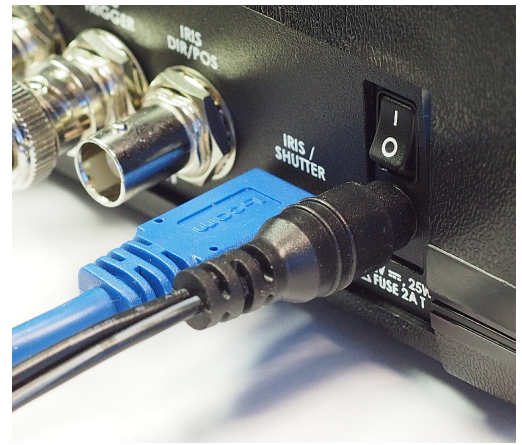
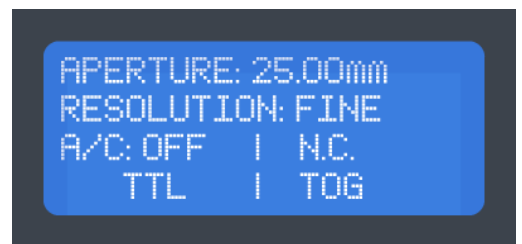

Fig. 6
Fig. 7
5. Power on the AIC10 Iris Controller by switching the rear panel power switch to the “ON” position (  ) (Fig. 6). The AIC10’s green “POWER” LED will illuminate, indicating that the device is powered (Fig. 5). The front-panel display will illuminate as well, and will show the Iris Status Screen (Fig. 7). If your AI25 is equipped with the high-speed shutter attachment, the shutter will automatically close upon power up and the amber “SHUTTER SYNC ACTIVE” LED may quickly illuminate.